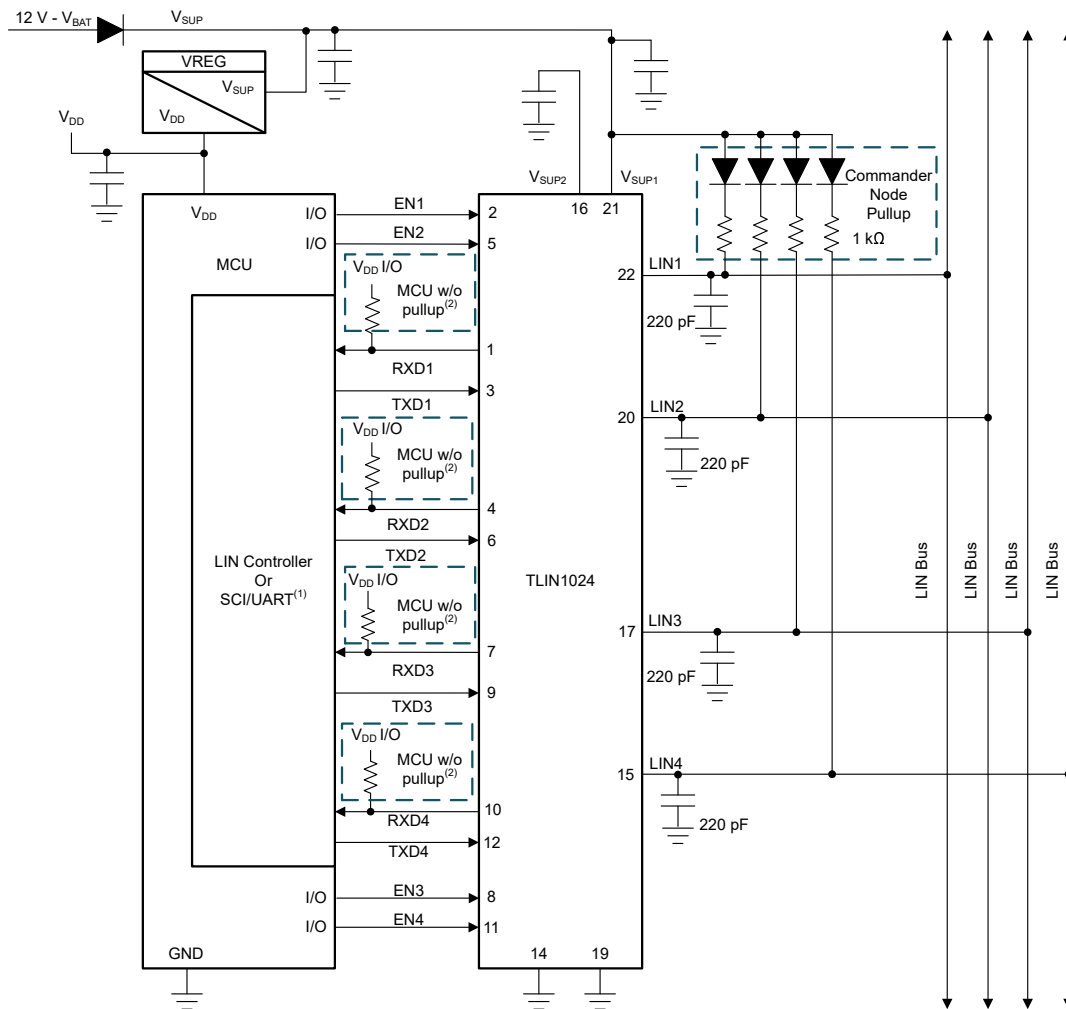

Figure 8-1. Typical LIN Bus
The device comes with an integrated 45 kΩ pull-up resistor and series diode for responder applications. For commander applications, an external 1 kΩ pull-up resistor with series blocking diode can be used. Figure 8-1 shows the device being used in both commander and responder applications.
- **Pin 13, 18, 23 and 24 (NC):** Not Connected
- **Pins 22, 20, 17 and 15 (LIN1/2/3/4):** This pin connects to the LIN bus. For responder applications a 220 pF capacitor to ground is implemented. For commander applications and additional series resistor and blocking diode should be placed between the LIN pin and the $V_{SUP1/2}$ pin. See Figure 8-1.